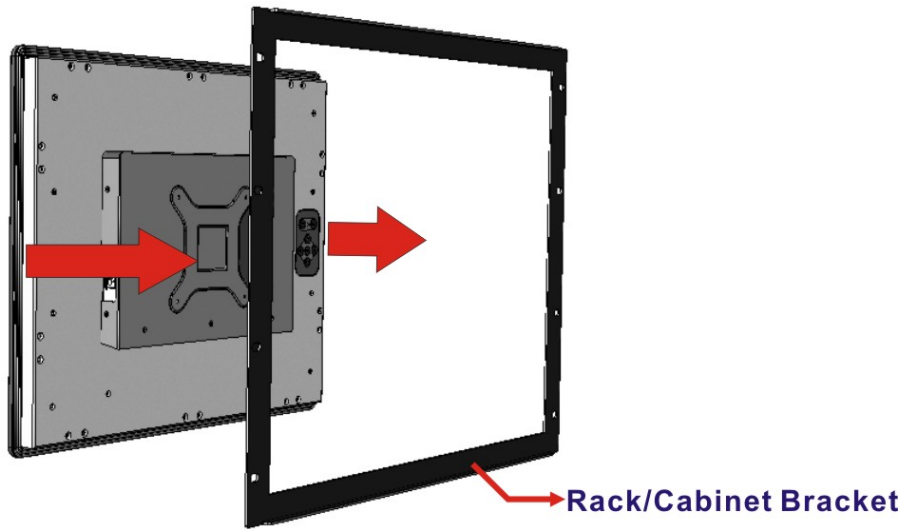

Figure 3-34: Slide DM-F19A into the Rack/Cabinet Bracket
Step 1: Slide the rear of the DM-F series LCD monitor through the rack/cabinet bracket until the aluminum frame is flush against the front of the bracket (**Figure 3-34**).